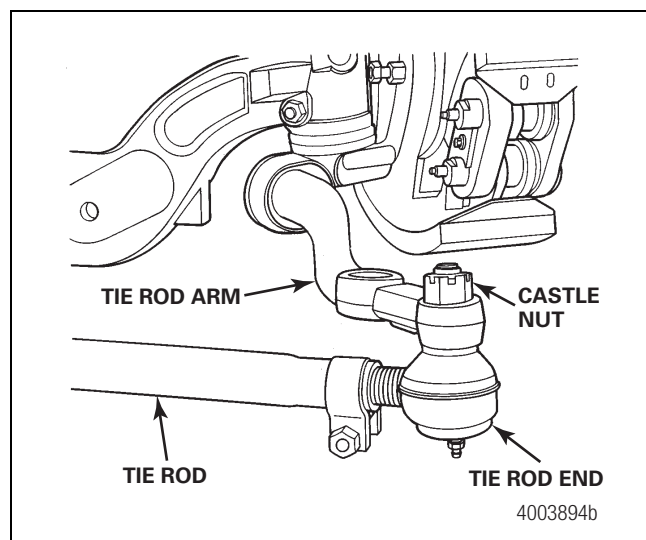

Figure 3
6. As a verification check to ensure the castle nuts are not hand loose or below 25 lb-ft (34 N•m), set the torque wrench to 25 lb-ft (34 N•m). Rotate the tie rod end castle nut in a clockwise direction and note if the nut turns before reaching the set torque. Figure 3.